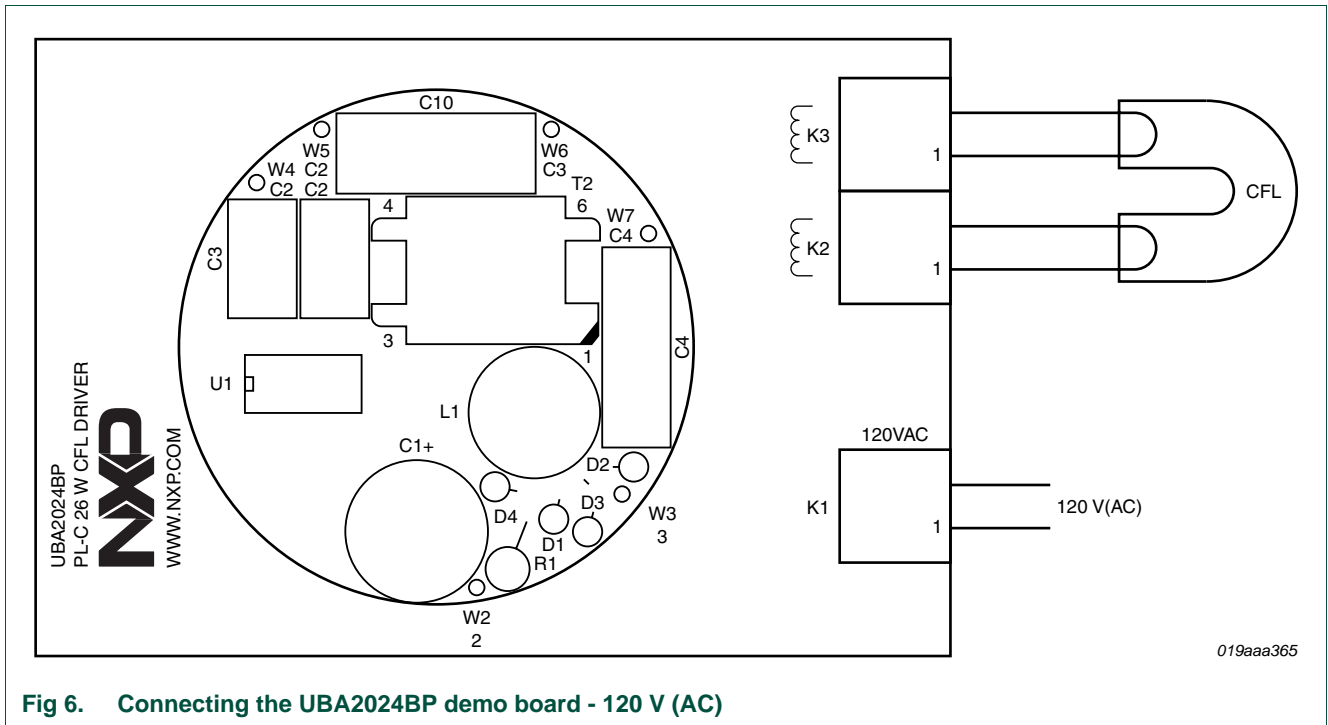

Fig 6. Connecting the UBA2024BP demo board - 120 V (AC)
The connection to the lamp is very straight forward as shown in Figure 6 and 7. Note that any UBA2024B application cannot be used with 230 V (AC) mains voltages.